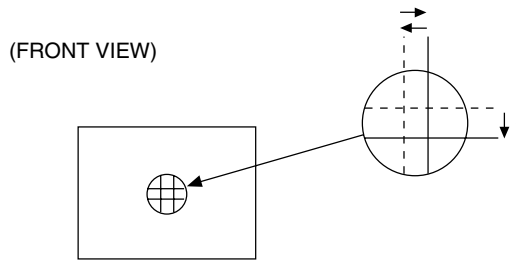

Fig. 10
2. Using 4-pole convergence magnets, overlap the red and blue lines in the centre of the screen (Fig. 10) and turn them to magenta (red/blue).